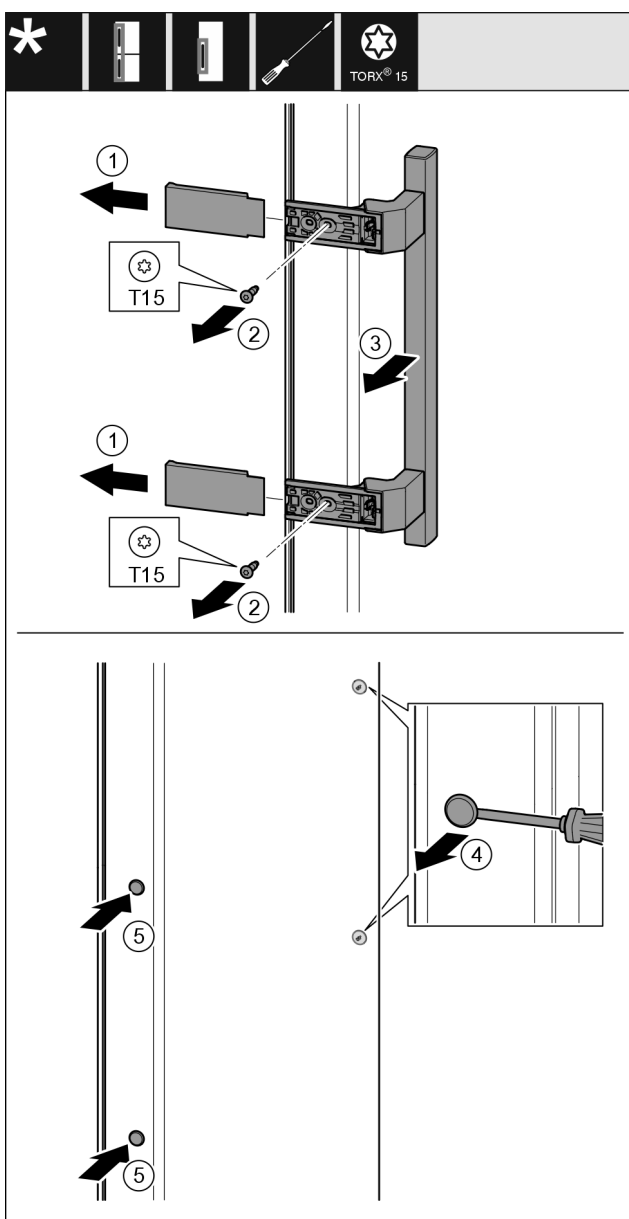

Fig. 21
- Remove the cover Fig. 21 (1).
- Unscrew screws Fig. 21 (2) with screwdriver.
- Remove the handle Fig. 21 (3).
- Use a slotted screwdriver to lift the side plug Fig. 21 (4) carefully and pull it out.
- Re-insert the plug Fig. 21 (5) on the other side.